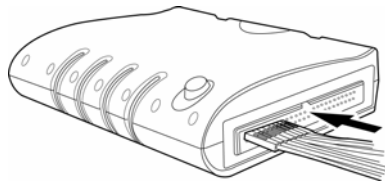

Fig. 2-1
1. Plug the fixed end of the cables into the LA (Fig.2-1).